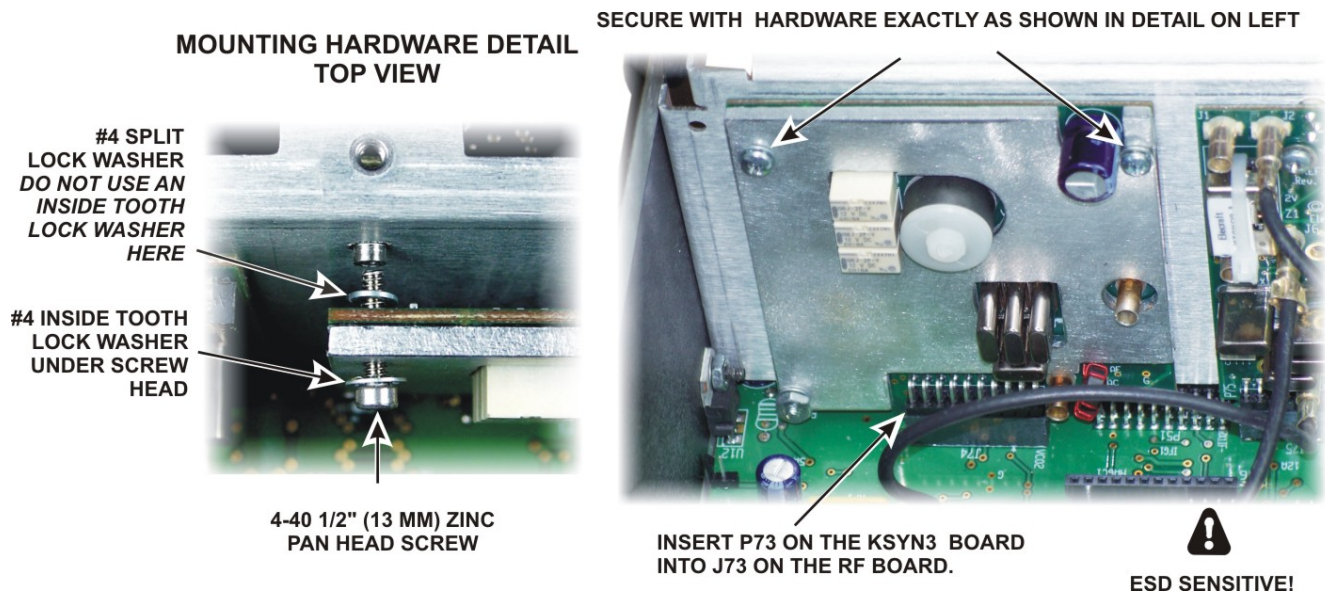

Figure 28. Installing the Aux KSYN3 Board.
□ Install the Auxiliary KSYN3 board on the back of the front panel shield between the KREF3 board and the side panel. Use the hardware exactly as shown in Figure 28. This is most easily done as follows:
⚠ You may find that it helps to elevate the front of the K3 so that the lock washer on the screw (left side of Figure 28) tends to slide toward the Aux KSYN3 board.